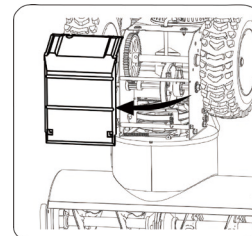

Figure 28
2. Carefully pivot the snow thrower up and forward so that it rests on the auger housing. Remove the frame cover from the underside of the snow thrower by removing four self-tapping screws which secure it. See Figure 28